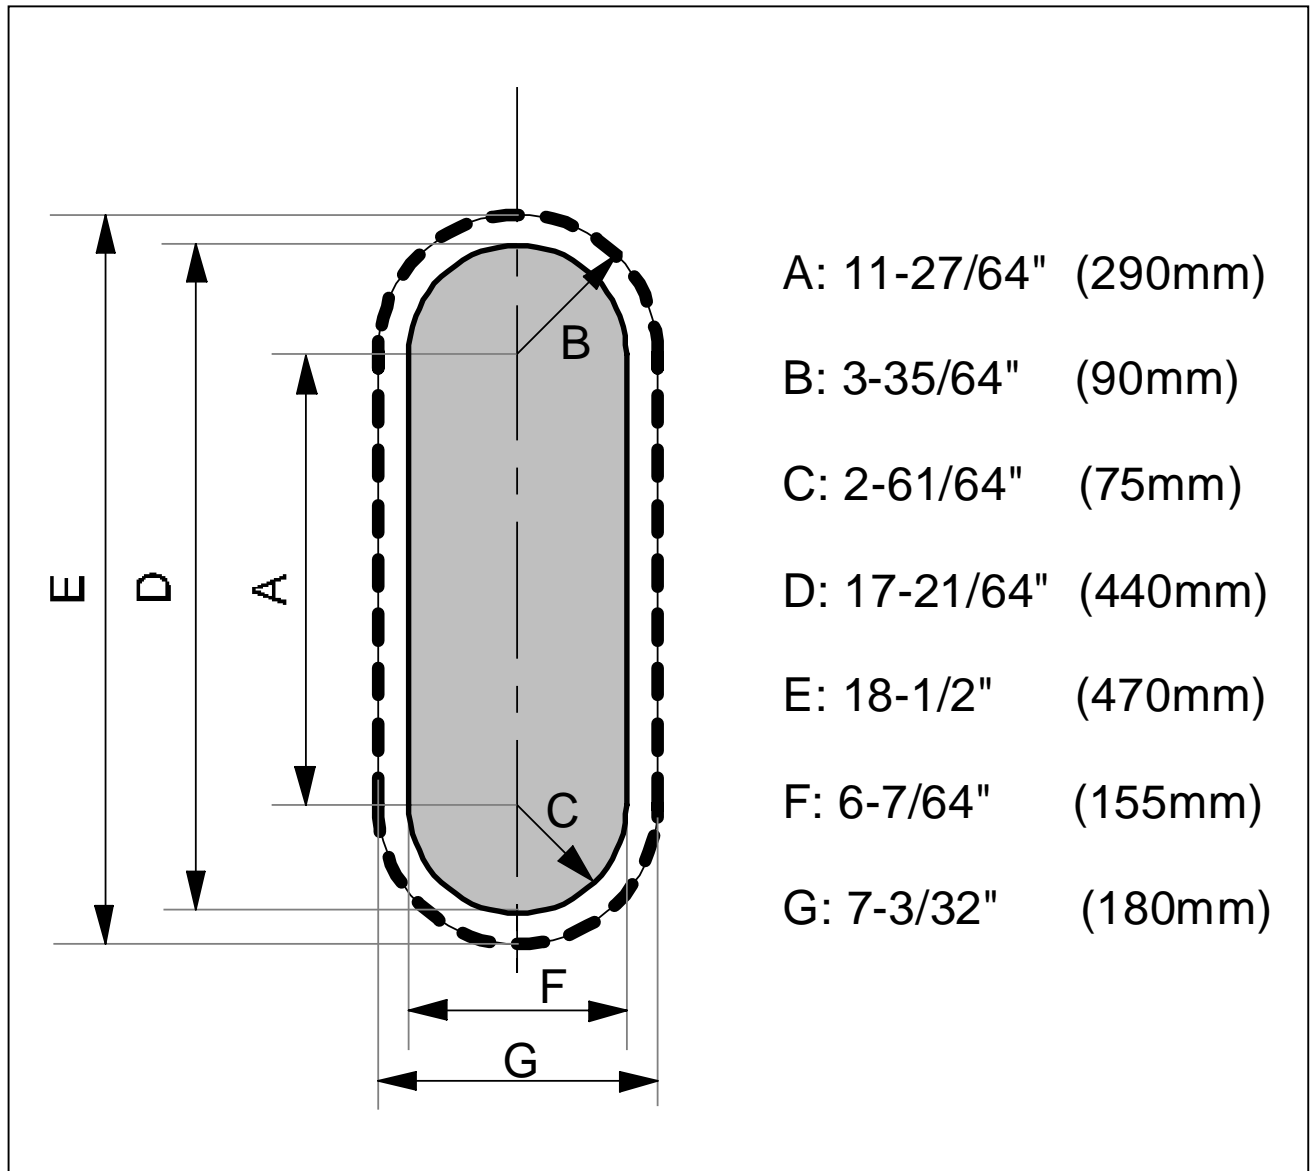

Figure 7: Cut-out template for triple rear lamp housing VH 10765498
Fabricate a cut-out template by transferring Figure 7 onto a suitable piece of cardboard.
- Use bold dotted outside line to locate and adjust template on rear cap referring to the dimensions given in Figure 7